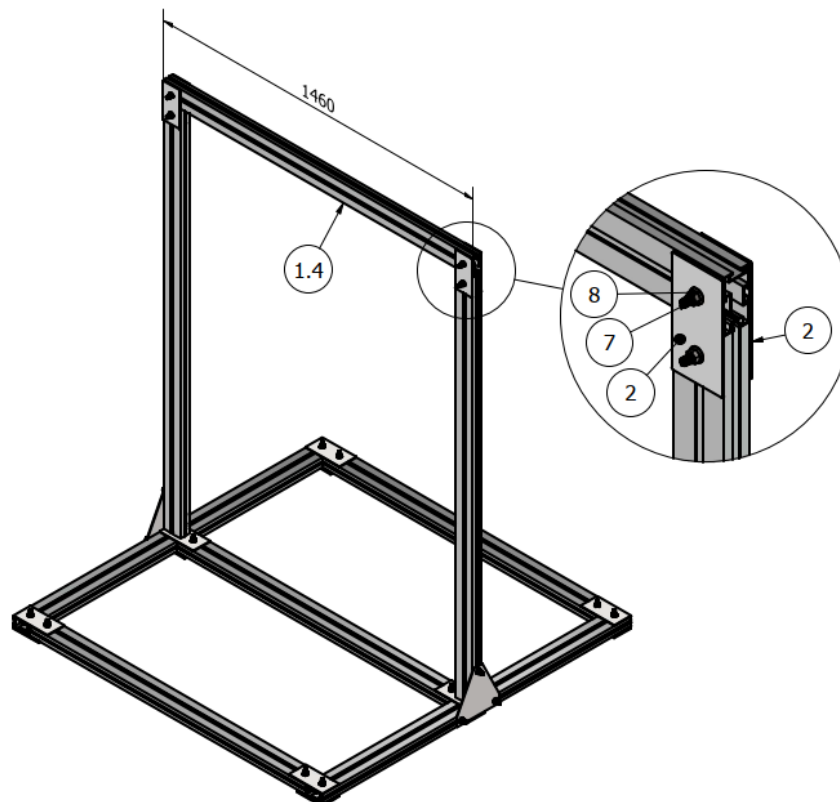

FIG. 5 Mounting the horizontal top beam
5. Using fasteners **2**, screw the horizontal top beam **1.4** as shown in Fig. 5.